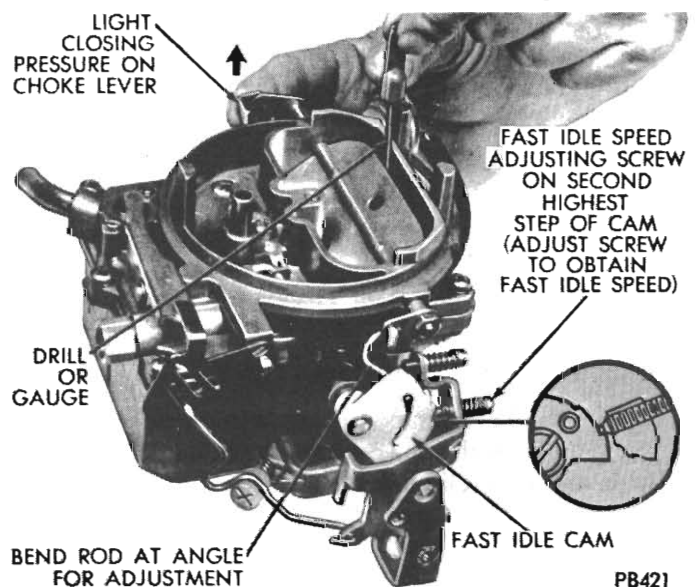

Fig. 24 – Fast idle cam position adjustment
(1) With fast idle speed adjusting screw contacting second highest speed step on the fast idle cam, move choke valve toward closed position with light pressure on choke shaft lever.
(2) Insert specified drill (see Specifications) between top of choke valve and wall of air horn (Fig. 24). An adjustment will be necessary if a slight drag is not obtained as drill shank is being removed.
(3) If an adjustment is necessary, bend fast idle connector rod at angle until correct valve opening has been obtained (Fig. 24).